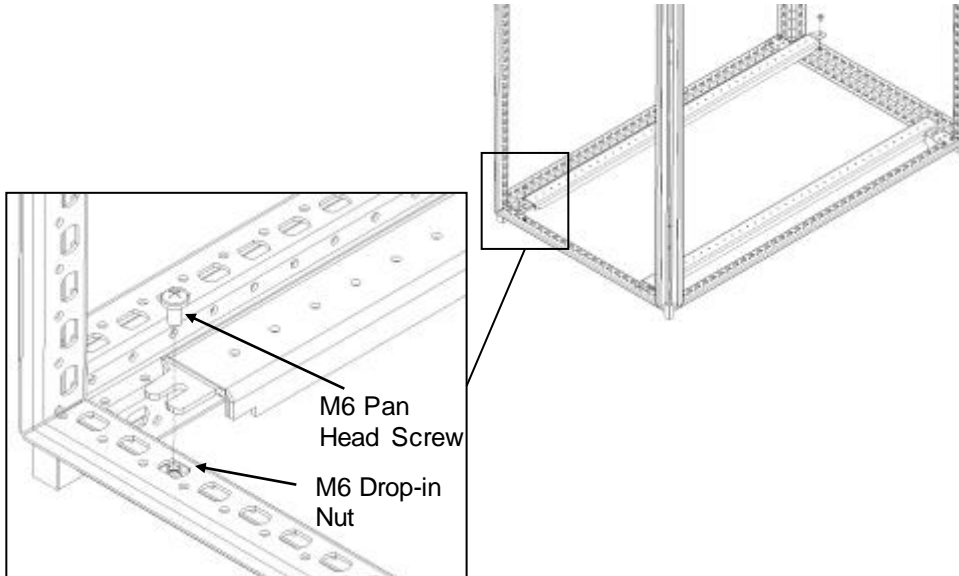

Figure 3
4. Install the two installation support rails located three holes from the left and right of the frame using M6 pan head screws (torque 38 IN-LB [4.3 N-M]) and drop-in nuts (Figure 3). Rotate the M6 drop-in nuts 90 degrees to engage frame. Notes: orientate the rails so they are biased to the frame sides and almost touching the bottom support brackets.